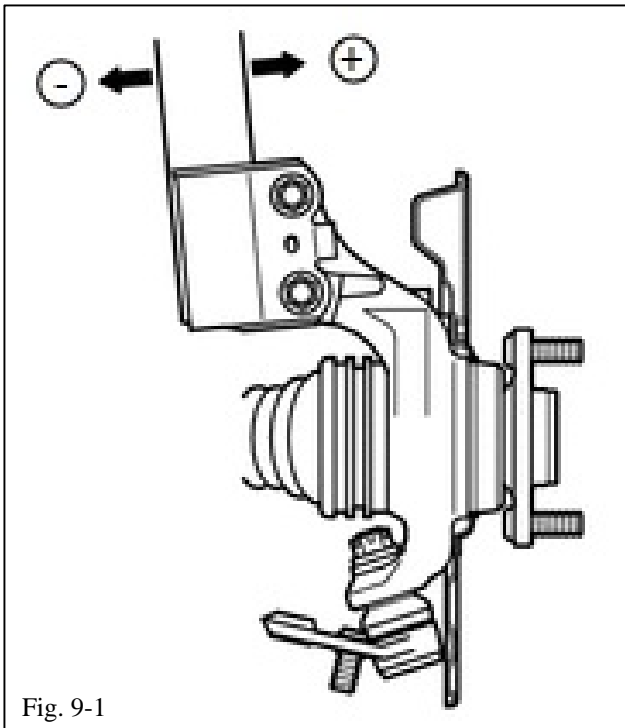

Fig. 9-1
- (1) Fully push or pull the front axle hub in the direction of the required adjustment (Fig. 9-1).